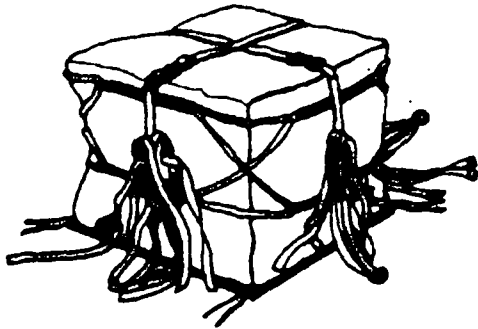

Figure 1-4. Securing the Strap
Step 6 - Route the 188-inch strap over top of the load. Route the free end under the floating safety bar (smooth side) and back over the friction adapter (rough side). Tighten the strap, fold in 8- to 10-inch loops, and secure (Figure 1-4).